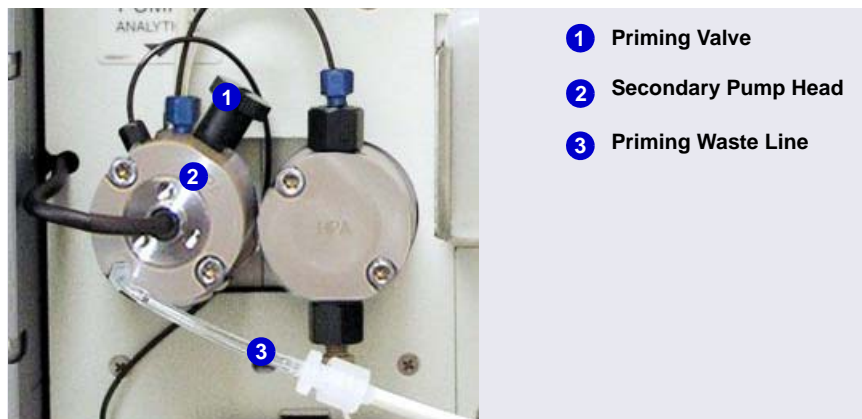

Figure 3-58. DP/SP Priming Valve
1. Place the waste line from each pump priming valve (see Figure 3-58) into a waste container or appropriate drain.
3. Open the priming valve on the secondary pump head (see Figure 3-58) by turning the knob one-half turn counterclockwise.